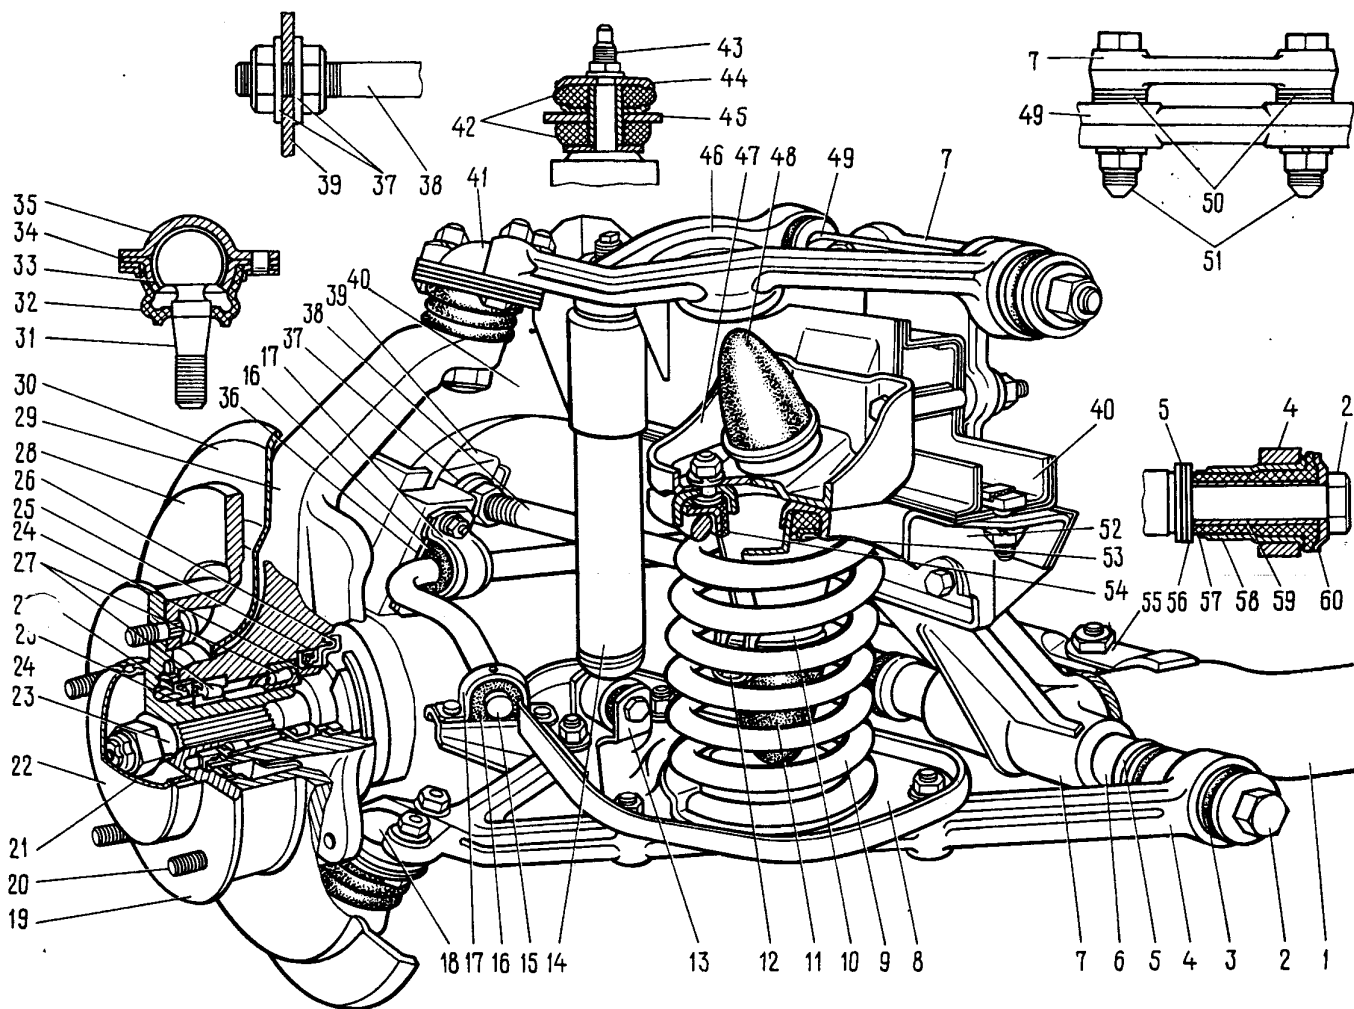

Fig. 4-1. Front Suspension:
The design of the front suspension is shown in Fig. 4-1.
Caster. If the measurements show that the caster angle comes out of the above-specified limits, change the number of adjusting washers 50 (Fig. 4-1) installed between the upper wishbone shaft and the crossmember bracket (see Table 4-1).
Camber angle. If the camber angle is other than normal, adjust it by changing the number of washers 50 (Fig. 4-1) installed between the upper wishbone shaft and the crossmember bracket.
- using remover tool 67.7823.9514, remove the cap from the wheel hub, unscrew the adjusting nut and remove bushing 2I (Fig. 4-1);